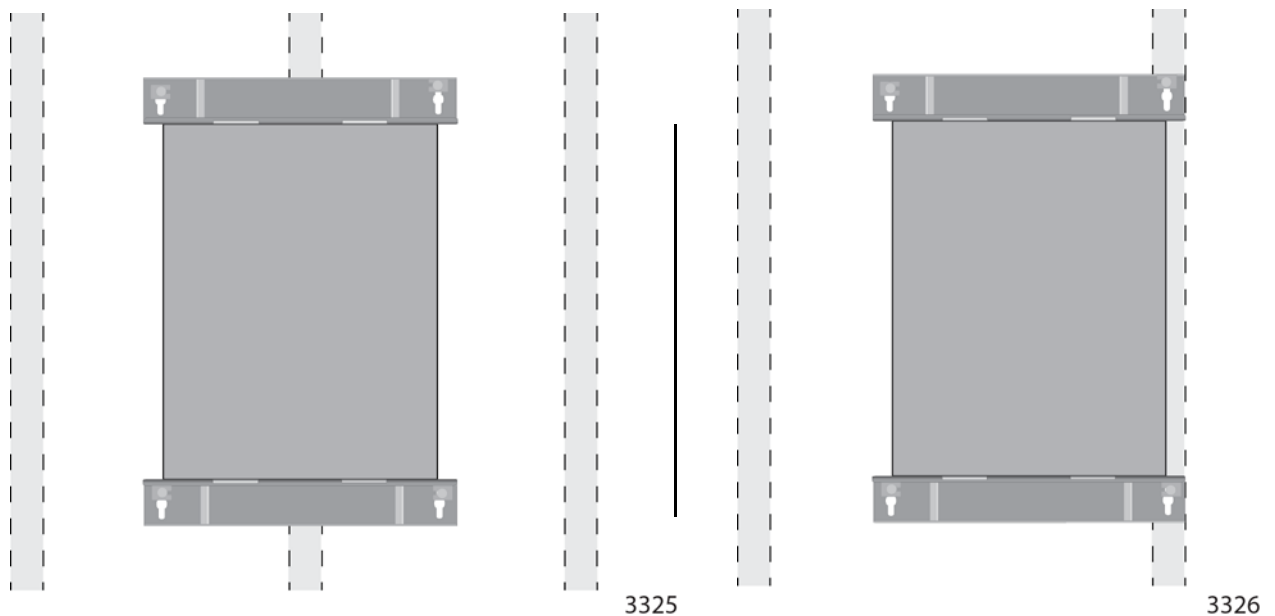

Figure 5. Incorrect Installations on Wallboard
- ❑ The brackets should NOT be fasten intra-stud or with only two of the bracket screws fastened to a wall stud. Refer to Figure 5.